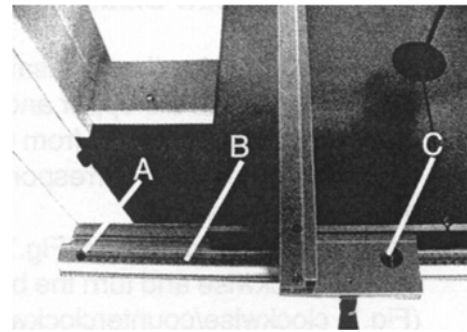

Fig. 16: Adjusting the rip fence guide scale
Step 1: Push the rip fence towards the saw band and loosen the screw (Fig. 16; A).
Step 2: Move the scale along the mark in the window. If necessary, you can also insert the screw (Fig. 16; A) in another position to fix the scale.